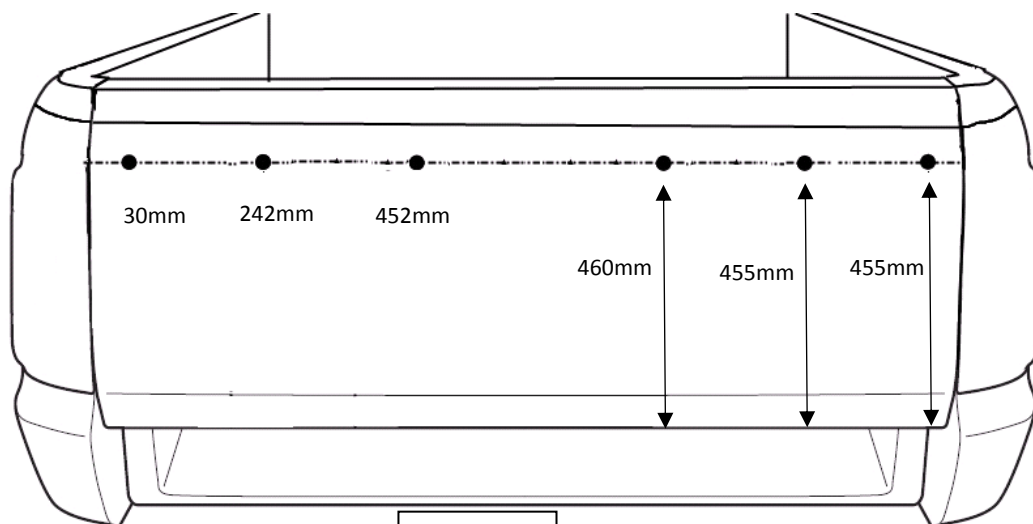

Figure 1
- Using a 4.5mm drill bit drill a hole in each of these positions, then pop rivet a button into place. **See Figure 1**